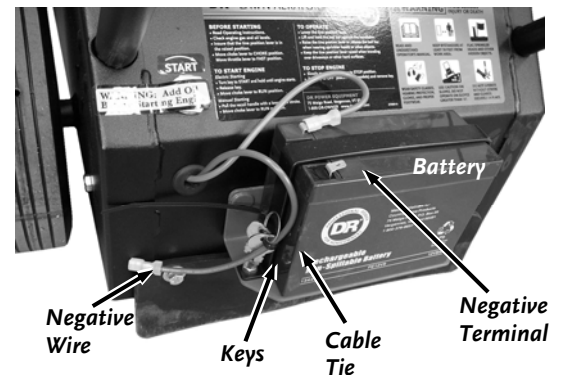

Figure 7
- Cut the Cable Tie to release the Keys and negative Battery Wire (**Figure 7**).